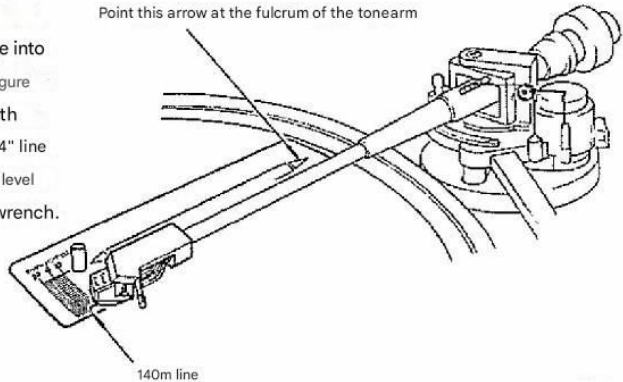

Figure 10
- ① Adjust the overhang using the included overhang gauge. Insert the hole of the overhang gauge into the center spindle and set it as shown in Figure 10. Adjust the headshell back and forth so that the tip of the needle is on the "14" line on the gauge scale, and at the same time, level the shell and fix it with a hexagonal wrench.